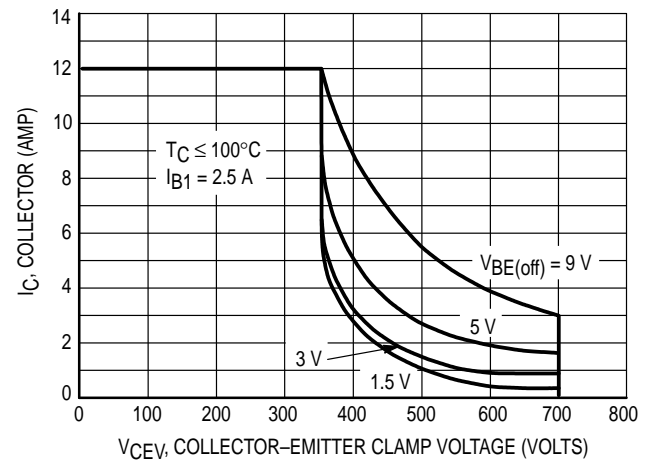

Figure 2. Reverse Bias Switching Safe Operating Area
$T_{J(pk)}$  may be calculated from the data in Figure 4. At high case temperatures, thermal limitations will reduce the power that can be handled to values less than the limitations imposed by second breakdown. Use of reverse biased safe operating area data (Figure 2) is discussed in the applications information section.
For inductive loads, high voltage and current must be sustained simultaneously during turn-off, in most cases, with the base to emitter junction reverse biased. Under these conditions the collector voltage must be held to a safe level at or below a specific value of collector current. This can be accomplished by several means such as active clamping, RC snubbing, load line shaping, etc. The safe level for these devices is specified as a Reverse Bias Safe Operating Area (Figure 2) which represents voltage-current conditions that can be sustained during reverse biased turn-off. This rating is verified under clamped conditions so that the device is never subjected to an avalanche mode.
- (3) The base drive conditions are within the specified limits shown on the Reverse Bias SOA curve (Figure 2).